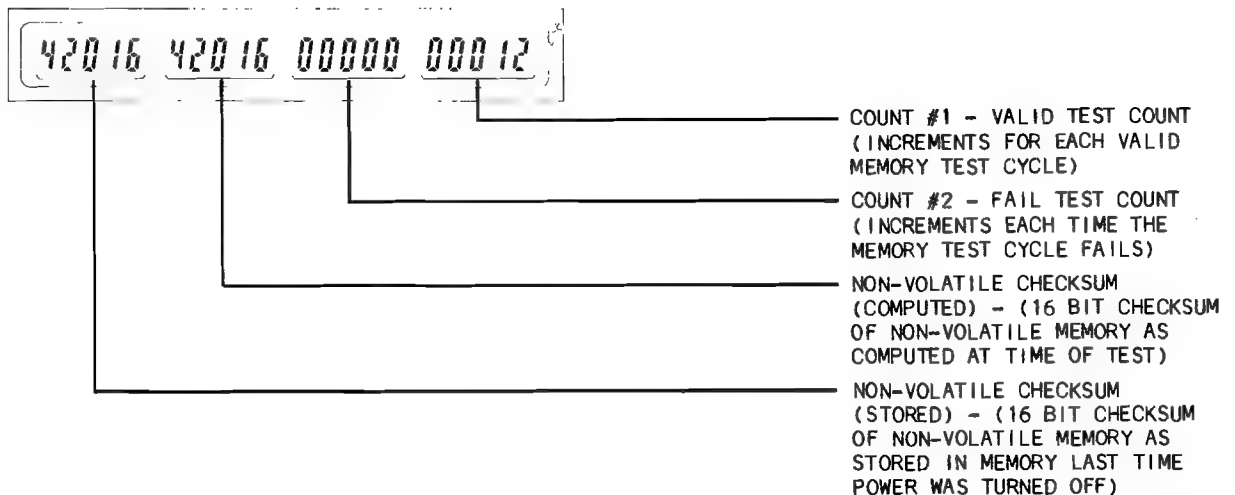

Figure 3-6 LCD Readout on Self Test 1
9. Press "MENU,V" sequentially on KEYBOARD (20). Verify LCD Manual Data, Memory Recall, Memory Storage and Self Test Menus are displayed.
10. Select Self Test Menu on CRT (50).
11. Press "EXEC,1,ENTER" on KEYBOARD (20). Verify LCD (21) readout displays as in Figure 3-6.